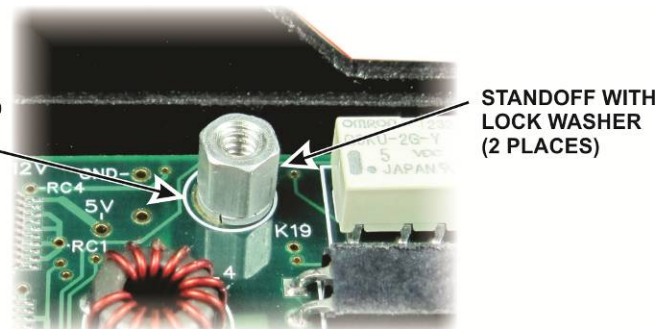

Figure 18. KXAT3 or Adapter Mounting Hardware.
- Secure the KXAT3 or adapter board using the two M-F standoffs and lock-washers. Place the lock washers under the standoffs as shown in Figure 18.